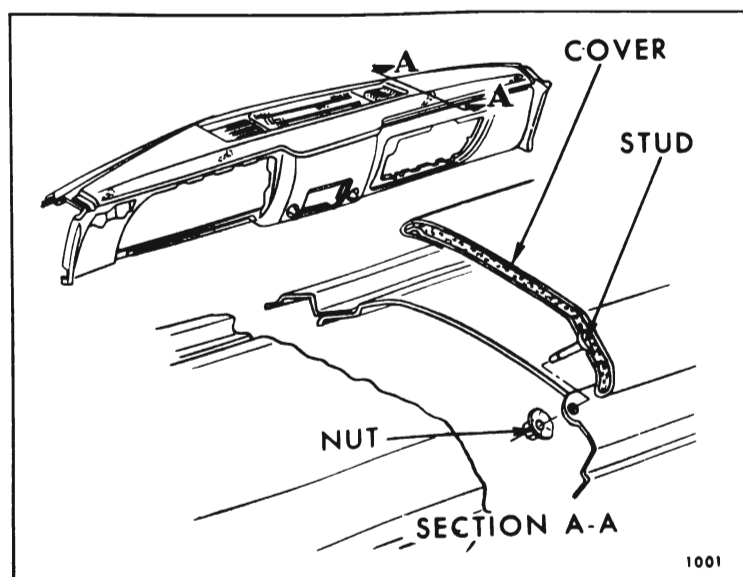

Fig. 3-18—Instrument Panel Cover
The instrument panel cover is secured to the instrument panel by studs and nuts or screws (Figs. 3-18, 3-19, 3-20 and 3-21). The studs are an integral part of the cover assembly.
3. From underside of instrument panel, remove attaching screws and nuts and carefully remove cover assembly (Figs. 3-18, 3-19, 3-20 and 3-21).